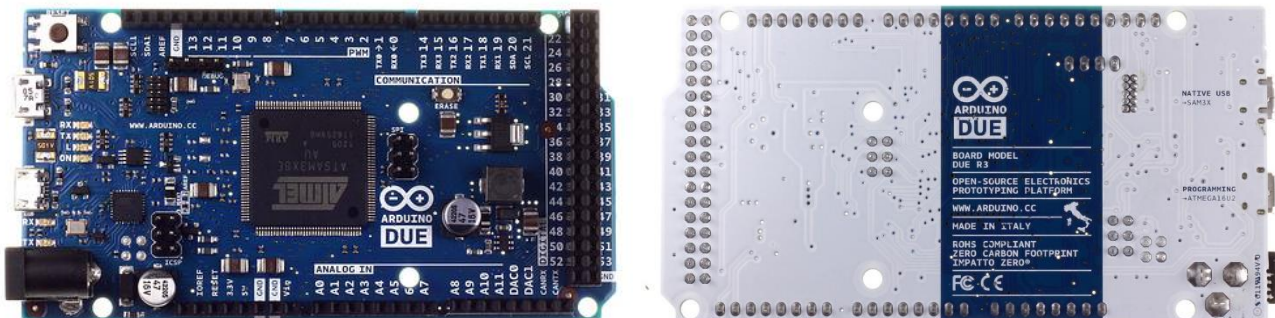

Figure 1: Front and back side of Arduino Due
- **Figure 1.** Front and back side of Arduino Due